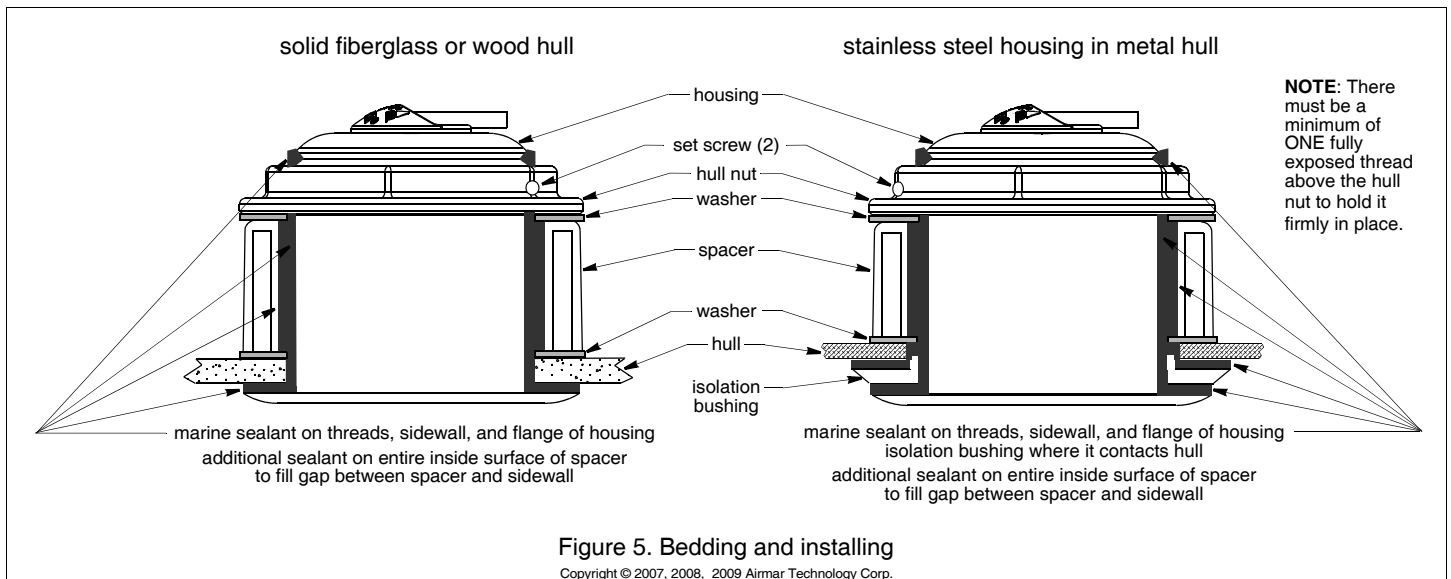
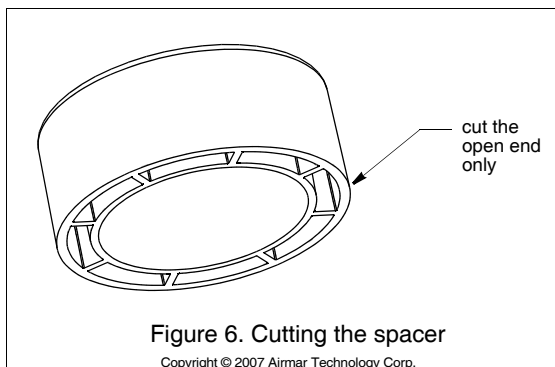

Figure 5. Bedding and installing
Figure 6. Cutting the spacer
4. Dry fit the sensor to determine if the spacer must be cut. From outside the hull, push the housing through the mounting hole (see Figure 5). From inside, slide one of the washers onto the housing. Slide the spacer onto the housing with the open end facing the hull. Add the remaining washer. *Be sure a minimum of THREE threads are showing on the housing above the washer.* If not, cut the spacer to make it shorter. When cutting the spacer, *be sure to cut the open end* (see Figure 6).
1. Apply a 4mm (1/8") thick layer of marine sealant to the flange, sidewall, and threads of the housing (see Figure 5). The sealant must extend 12mm (1/2") higher than the combined thickness of the hull, spacer, and hull nut. This will ensure there is marine sealant in the threads to seal the hull and to hold the hull nut securely in place.
2. Slide one of the washers onto the housing (see Figure 5). Slide the spacer onto the housing until the open end rests against the washer. Add the remaining washer. *Be sure a minimum of THREE threads are showing on the housing above the washer.* If not, make the spacer shorter by cutting the open end (see Figure 6).